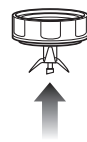

Fig. 14
- 8 Turn the cup upright and remove the Nutri Ninja Blade Assembly by twisting the blade assembly counter clockwise. (Fig. 14)